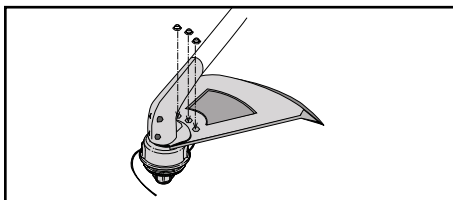

Fig. 7
2. Place the three hex nuts into the recessed holes on top of the guard (Fig. 7).